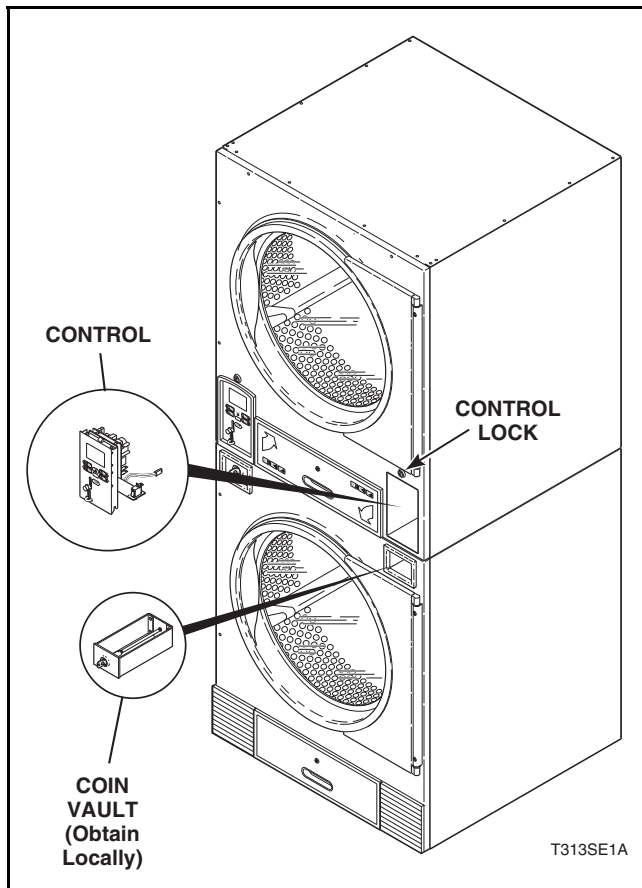

Figure 7
Refer to *Figure 7*.
- Remove four screws holding plate at rear of control box. Refer to *Figure 7*.